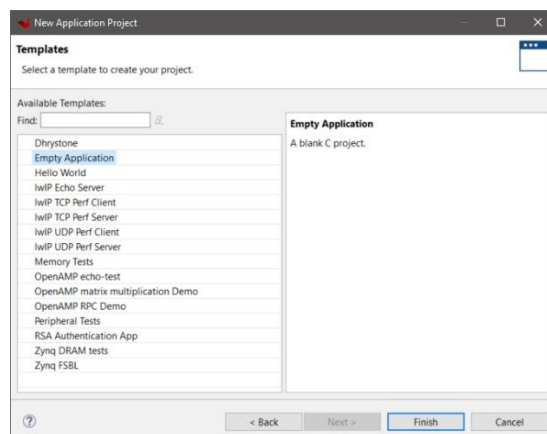

Figure 37
6. In the **Templates** page, select **Empty Application** from the list of **Available Templates:** and click **Finish** (Figure 37)